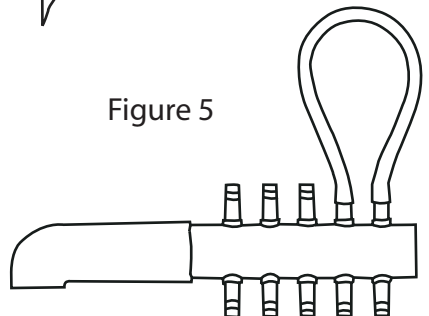

Figure 5
7. If you are not using all of the outlets we recommend that you bridge them. Figure 5